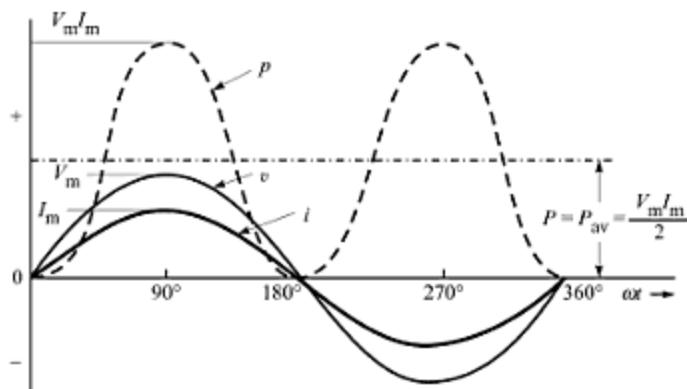

Fig. 9.18 Power waveform for a resistive circuit.
**Power Waveform** In a purely resistive circuit, the current and the voltage are in phase. The instantaneous power  $p$ , given by the product  $vi$ , fluctuates (sinusoidally) between zero and maximum value  $V_m I_m$ , as shown in Fig. 9.18. The average power flowing from the source to the load (a resistance) is seen to be